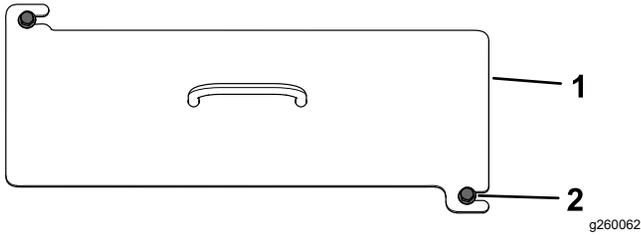

Figure 45
2. Loosen the 2 bolts securing the front cover to the machine (Figure 45).